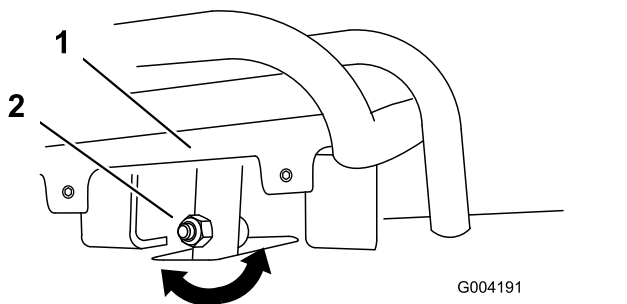
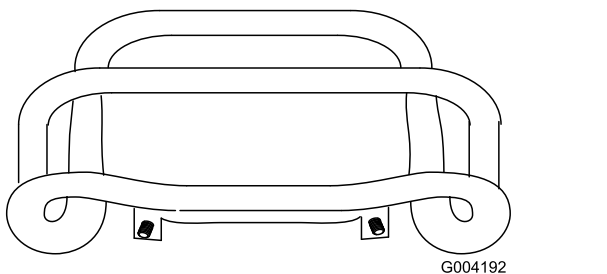

Figure 53
Figure 54
4. If the front of the traction control does not rest square and flush with the reference bar, loosen the nut and bolt in the stem of the traction control (Figure 53).
5. Adjust the traction control so that it rests flush against the reference bar when it is pulled straight back (Figure 53 and Figure 54).
- C. Loosen the flange nut and bolt in the stem of the traction control (Figure 53).
- I. Adjust the traction control so that it rests flush against the reference bar when it is pulled straight back (Figure 53 and Figure 54).